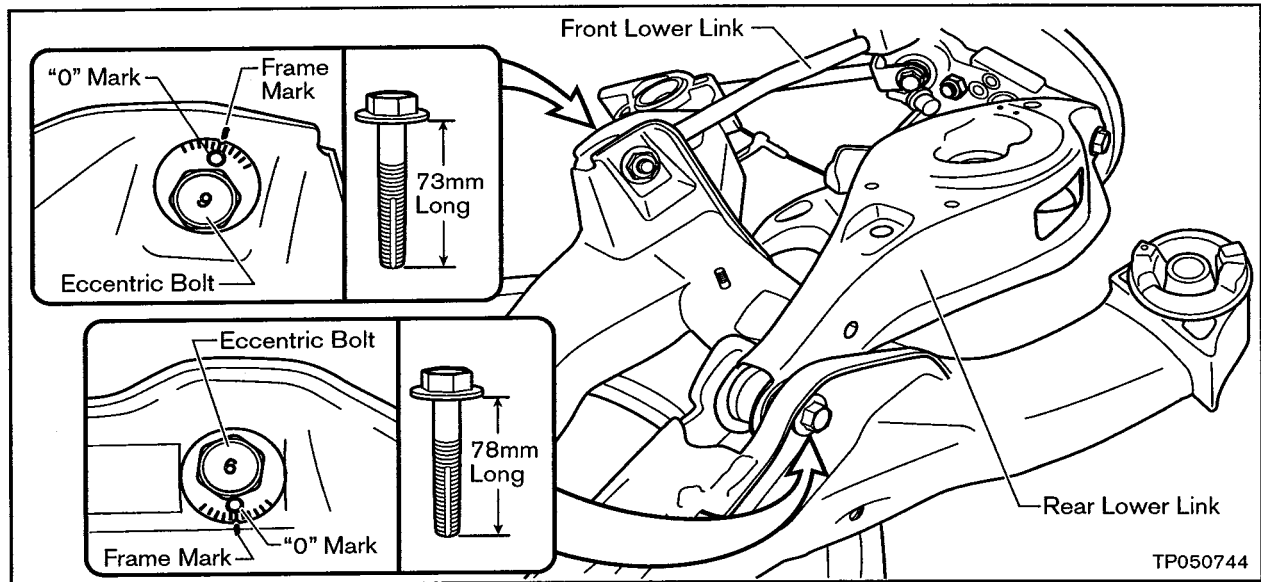

Figure B8
- There are two eccentric Bolts for the inner end of the front lower links and the inner end of the rear lower links. They are installed as shown in Figure B8. Use new nuts from the kit when installing these bolts. **During installation, use a backup wrench to keep the eccentric bolts correctly positioned.**